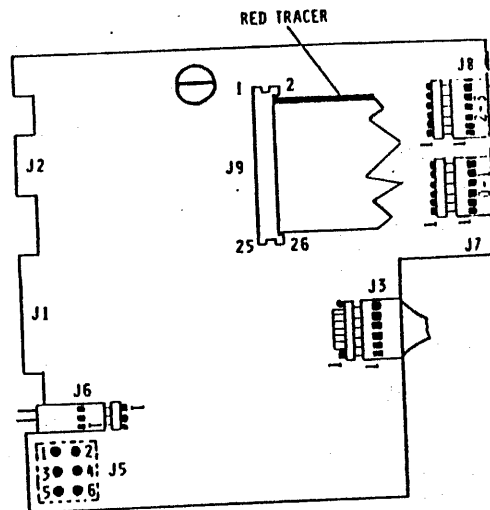

Figure 3-27
3. Fasten the (3) quarter turn PWA mounts.
5. Refer to Figure 3-27 and reconnect J-5 through J-9.